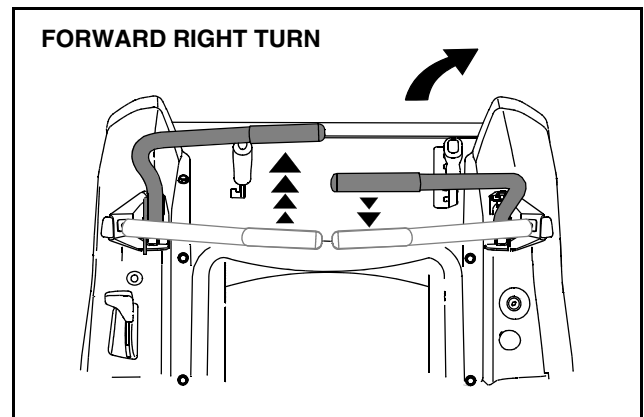

Figure 14
- To turn to the right, move the right drive control lever rearward of the left lever. See Figure 14.